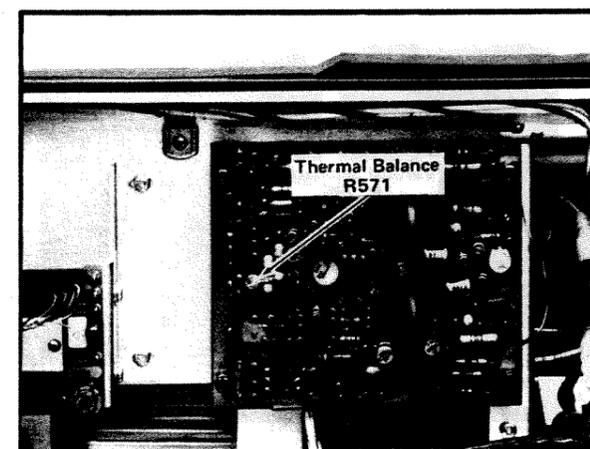

Fig. 5-13. Location of Horizontal Amplifier Thermal Balance adjustment R571.
- l. ADJUST—Thermal Balance adjustment R571 (see Fig. 5-13) for minimum movement of the readout characters (if available) and the displayed time markers.
- q. ADJUST—Compromise the setting of the Thermal Balance adjustment R571 (see Fig. 5-13) as set in step l to provide minimum horizontal movement of the readout characters and the displayed time markers.